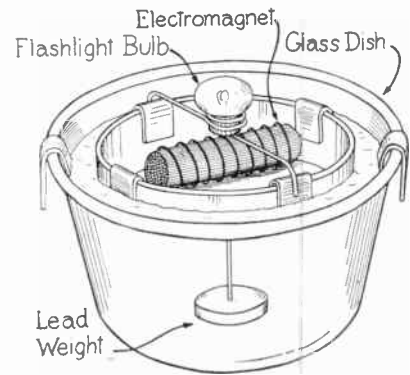

Fig. 3
When charged, the jar can be placed on its side on a sheet of glass, after slightly turning its mouth or stoppered end downward, as shown in Fig. 3. This causes the inner metal tube to recede from contact with the inner tinfoil coating, yet still retaining contact with the rod through the metallic bristles or wires. The charge can then be taken from the plate (S) on the outer end of the rod (R). To remove another charge from the jar, stand upright until the metal tube slides down on the little metal wire bristles and comes in contact with the inner tinfoil coating, then slant it until the mouth is downward and the metal tube (T) recedes from the tinfoil coating on the inner side of the jar as before. This can be repeated until the jar is completely exhausted of its charge little by little.
(K) is a magnetic contactor made from a low voltage coil of a Westinghouse 7 1/2 horsepower type (A) automobile starter. It was rewound with No. 24 D. C. C. magnet wire for battery operation. (L) is the brake shoe. Fig. 3 shows the development of the control drum, which may be cut out and wrapped around a cylinder so that both edges met, and will then show the exact layout of the drum.
Fig. 3 shows how a small 3-volt lamp may be mounted on the motor to make it look more interesting. The lamp will gradually light up brightly and gradually go out twice every revolution, and will resemble a miniature flashing lighthouse. In this case the rotor is pivoted from underneath by means of a hat pin, the lower end of which is weighted with a piece of lead. Care should be taken to regulate the current flow through the solution so that the flashlight bulb will not burn out. A colored bulb, blue, for instance, will give the motor a more attractive appearance.